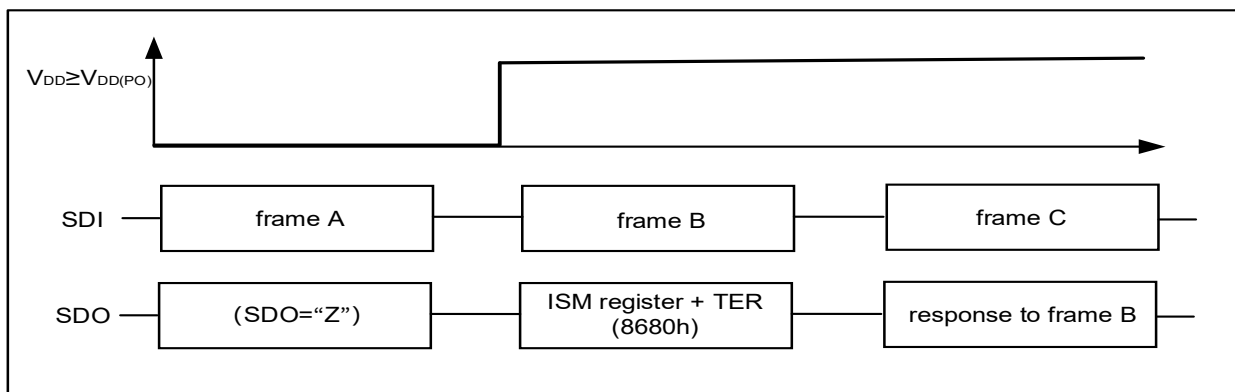

Figure 10.9 NSD56242 response after coming out of Power-On reset at  $V_{DD}$
- When NSD56242 logic supply comes out of Power-On reset condition or after a Software Reset, as shown in **Figure 10.9**